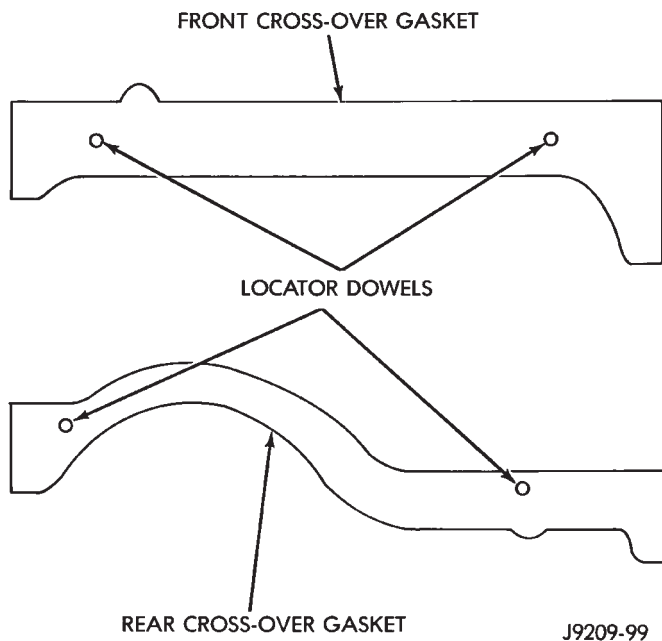

Fig. 12 Cross-Over Gaskets and Locator Dowels
(5) Install push rods and rocker arm assemblies in their original position. Tighten the bolts to 28 N•m (21 ft. lbs.) torque.
(6) Place the 4 plastic locator dowels into the holes in the block (Fig. 12).
(7) Apply Mopar Silicone Rubber Adhesive Sealant, or equivalent, to the four corner joints. An excessive amount of sealant is not required to ensure a leak proof seal. However, an excessive amount of sealant may reduce the effectiveness of the flange gasket. The sealant should be slightly higher than the cross-over gaskets, approx. 5 mm (0.2 in).
(8) Install the front and rear cross-over gaskets onto the dowels (Fig. 12).
(9) Install the flange gaskets. Be sure that the vertical port alignment tab is resting on the deck face of the block. Also the horizontal alignment tabs must be in position with the mating cylinder head gasket